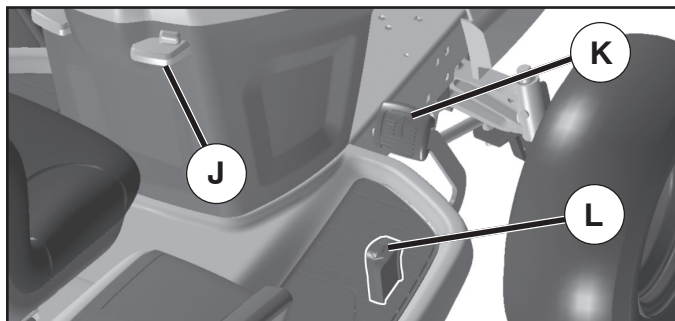

Fig. 7
## TO MOVE FORWARD AND BACKWARD (See Fig. 7)
- Slowly depress forward (K) or reverse (L) drive pedal to begin movement. Ground speed increases the further down the pedal is depressed.
## TO USE CRUISE CONTROL (J) (See Fig. 7)